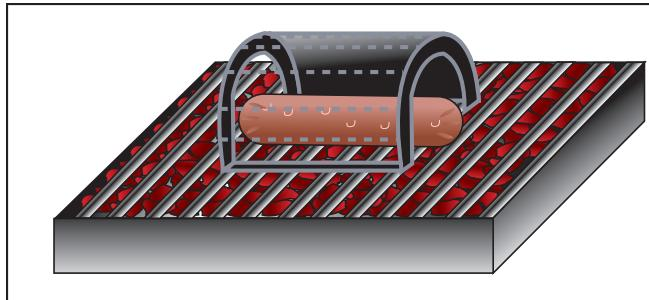

Figure 4
- (c) It's picnic time in the land of Oz and you're roasting hot-dogs on your (flat) barbie. If you don't rotate them they become 'half-and-half' dogs—half-burnt and half-raw. If you're handy, you cut a half-pipe from a steel tube and place it over the dog (see figure 4). The tube gets hot and re-radiates IR to the dog's backside, to more evenly 'tan' its hide.